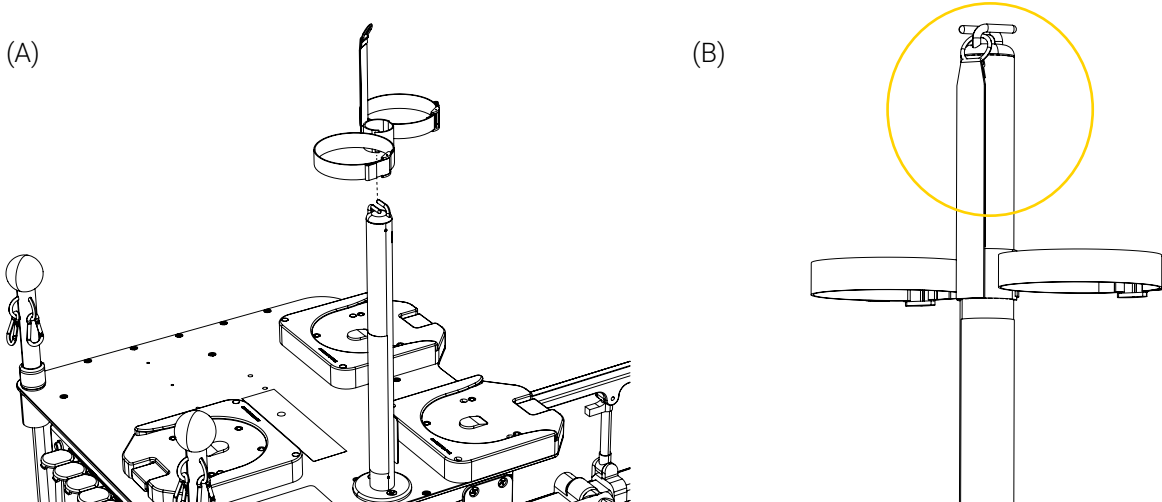

Figure 4: Strap installation
4. Insert the center loop of the strap on the Techni-IV Pole (Figure 4 A).
5. Hook the eyelet at the end of the strap into one of hooks located at the top of the Techni-IV Pole to install (Figure 4 B).